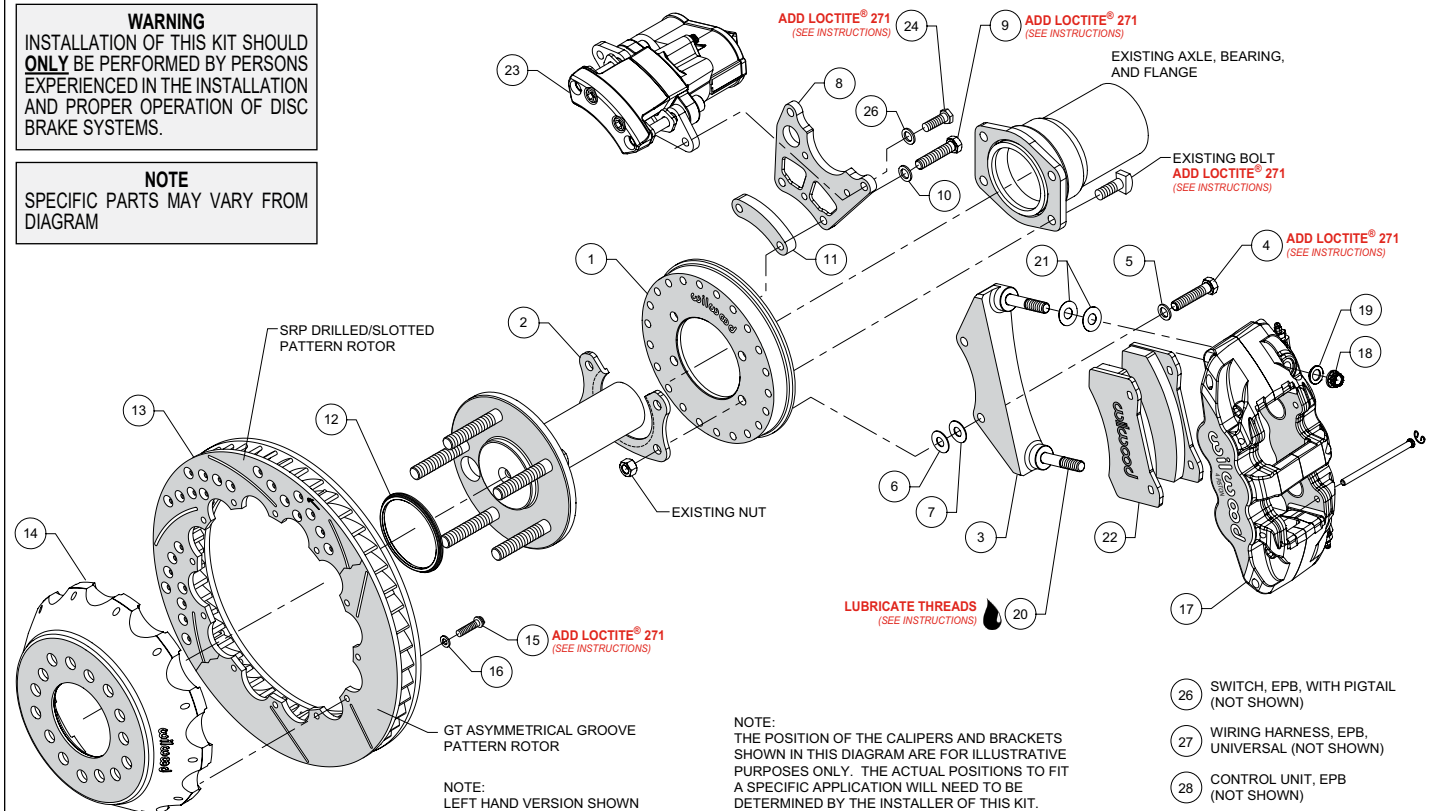
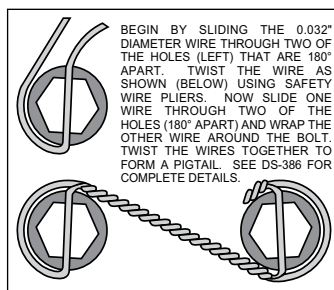

Figure 1. Typical Installation Configuration
Figure 5. Safety Wire Diagram
NOTE: Numbers in parenthesis refer to the parts list, and Figure 1 on the preceding pages.
- Orient the backing plate (1) as shown in Figure 1 and Photo 1, and slide it onto the axle housing flange. Ensure the
- Install the bearing retainer (2) with the opening pointing upward and the lip facing inward (toward the bearing), as shown in Figures 1 and 4, and Photo 2. Secure retainer and backing plate to the axle housing flange using the Original Equipment Manufacturer (OEM) bolts and nuts, Figure 1 and Photo 3. Apply red *Loctite*® 271 to the OEM bolt threads and torque to OEM specifications.
- Start by determining the best location for the service caliper (17). This caliper is usually mounted in the 3:00 or 9:00 o'clock position, but may be rotated up or down approximately 45 degrees and still allow for proper bleeding, Photo 4. Orient the service caliper bracket (3) as shown in Figure 1 and Photo 5, and install to the backing plate (1) in the desired location using bolts (4) and washers (5). Temporarily tighten bolts. Next, mount the service caliper onto the bracket. Lubricate the caliper mounting studs (20) with lightweight oil. Mount the service caliper using lock nuts (18) and washers (19), Figure 1. Temporarily tighten the lock nuts. Check that the caliper (including inlet fitting and hose) has sufficient clearance to all surrounding components through the full suspension travel. Relocate the caliper/bracket on the backing plate as needed to ensure proper clearance is achieved.
- Determine the best location for the EPB caliper (23). **NOTE:** *The EPB caliper motor extends farther inboard than the service caliper and therefore needs additional consideration when determining a mounting location with sufficient clearance.* In the example application shown in Photo 6, the EPB caliper has sufficient inboard clearance to the leaf spring. However, if the EPB caliper were mounted closer to the 12:00 o'clock position, the inner body of the vehicle would hit the caliper during full compression of the suspension.
•Orient the EPB caliper bracket (8) as shown in Figure 1 and Photo 7, and install to the backing plate (1) in the desired location using bolts (9), washers (10), and spacer (11). Temporarily tighten bolts.
•Orient the rotor (13) and the hat (14) as shown in Figure 1 and Photo 8. Attach rotor to hat using bolts (15) and washers (16). Using an alternating sequence, apply red Loctite® 271 to the threads, and torque to 155 in-lbs. For an added measure of security, the bolts may be safety wired using standard 0.032 inch diameter stainless steel safety wire as shown in Figure 5. Please refer to Wilwood's data sheet DS-386 (available at www.wilwood.com/Pdf/DataSheets/ds386.pdf) for complete safety wire installation instructions.
•Initially place two .030" thick shims (21) on each stud of the service caliper bracket (3), as shown in Figure 1 and Photo 10. Mount the caliper onto the bracket using lock nuts (18) and washers (19), Figure 1. Temporarily tighten the lock nuts and view the rotor through the top opening of the caliper. The rotor should be centered in the caliper, Photo 11. If not, adjust by adding or subtracting shims (6 and/or 7)) between the service caliper bracket (3) and the backing plate (1). Always use the same amount of shims on each of the two mounting bolts. Once the caliper alignment is correct, remove the bracket mounting bolts (4) one at a time, apply red Loctite® 271 to the threads, and torque bolts to 35 ft-lb.
- Remove the service caliper (17), then remove the two pad retaining pins from the caliper by carefully popping out the pin retaining clips and sliding out the pins. Insert the brake pads (22) into the caliper from the bottom, Figure 1 and Photo 12. With the friction material facing the rotor, secure the brake pads in place with the pad retaining pins and clips, Photo 13. Reinstall the caliper onto the mounting bracket and temporarily tighten the lock nuts. Check that the top of the brake pad is flush with the outside diameter of the rotor, Photo 14. If not, adjust by adding or subtracting shims (21) between the caliper and the bracket. After the caliper pad height is set, torque the caliper lock nuts (18) to 47 ft-lb.
- Mount the EPB caliper (23) onto the caliper mounting bracket (8) using bolts (24) and washers (25), Figure 1. Apply red *Loctite*® 271 to bolt threads, and torque to 30 ft-lb.
•NOTE: The service caliper (17) in this brake kit utilizes a 1/8-27 NPT pipe thread inlet. OEM rubber brake hoses generally cannot be adapted to Wilwood calipers. The preferred method is to use steel adapter fittings at the caliper, either straight, 45 or 90 degree (use PTFE tape on pipe threads of adapter fitting for proper sealing to caliper) and enough steel braided line to allow for full suspension travel. **Carefully route hoses to prevent contact with moving suspension, brake or wheel components.** **NOTE:** Wilwood hose kits are designed for use in many different vehicle applications and it is the installer's responsibility to properly route and ensure adequate clearance and retention for brake hose components. Wilwood offers universal brake flex line hose kits, domestic (3/8-24 IF) chassis fittings, order: